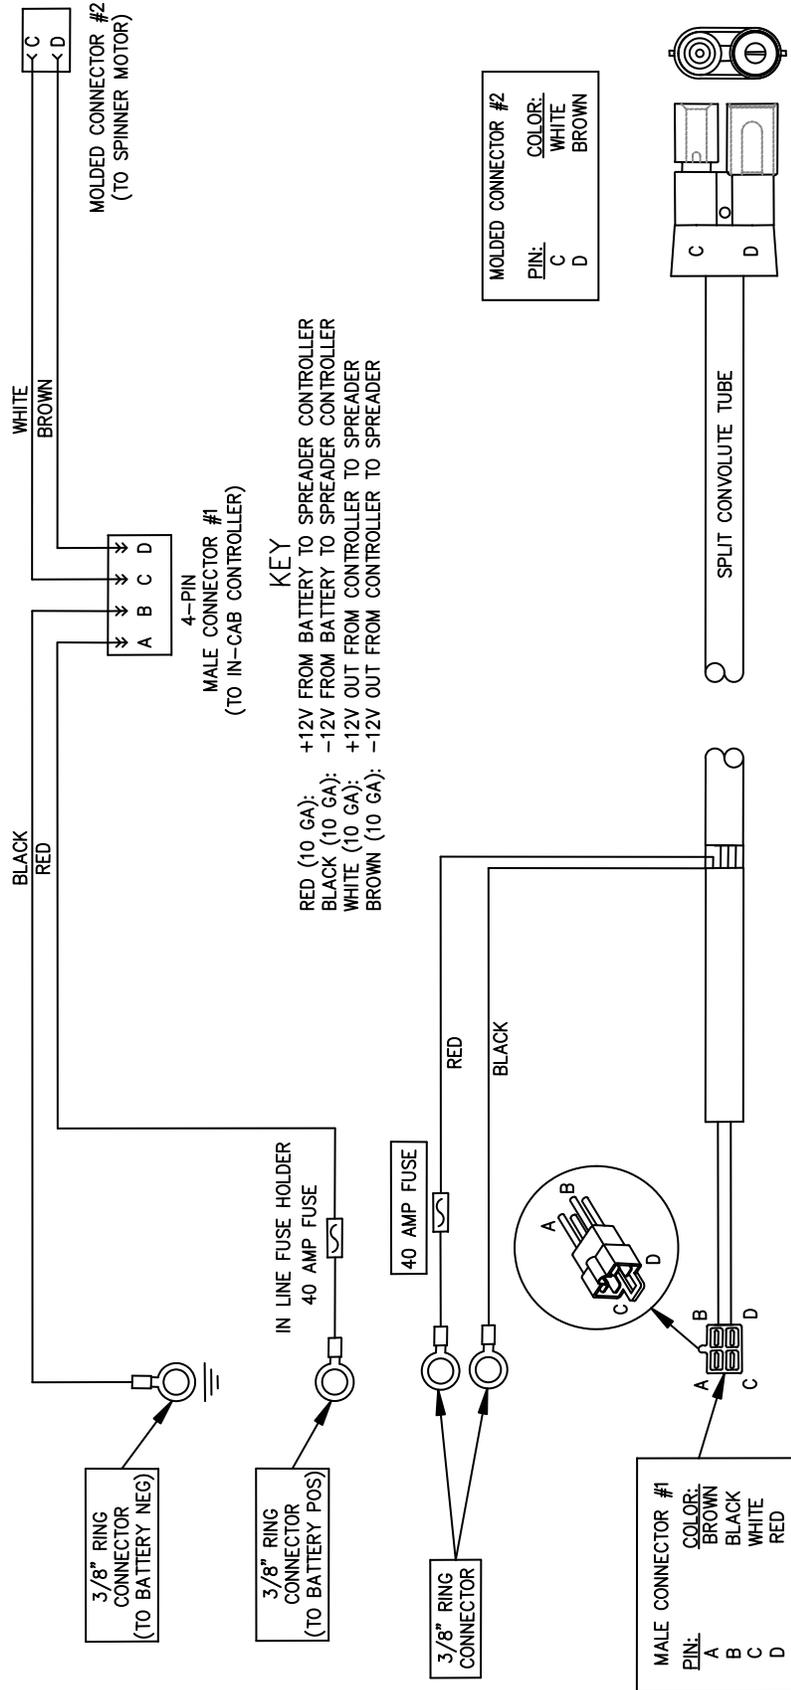

Figure 1. Vehicle Side Harness Diagram (TGS06085)
1. Refer to Figure 1. Begin at the rear of the vehicle. Secure the Molded Connector #2 near the center of the rear bumper using Cable Ties (MSC04088).